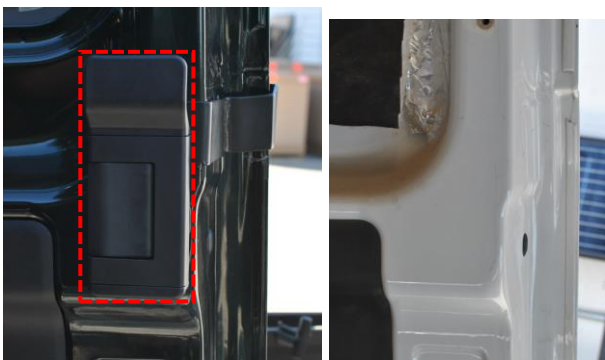

Figure 23: Inside Upper Handle - Present (left) or Not Present (right)
19. Determine if there is an upper handle present on the inside of the passenger door (Figure 23).